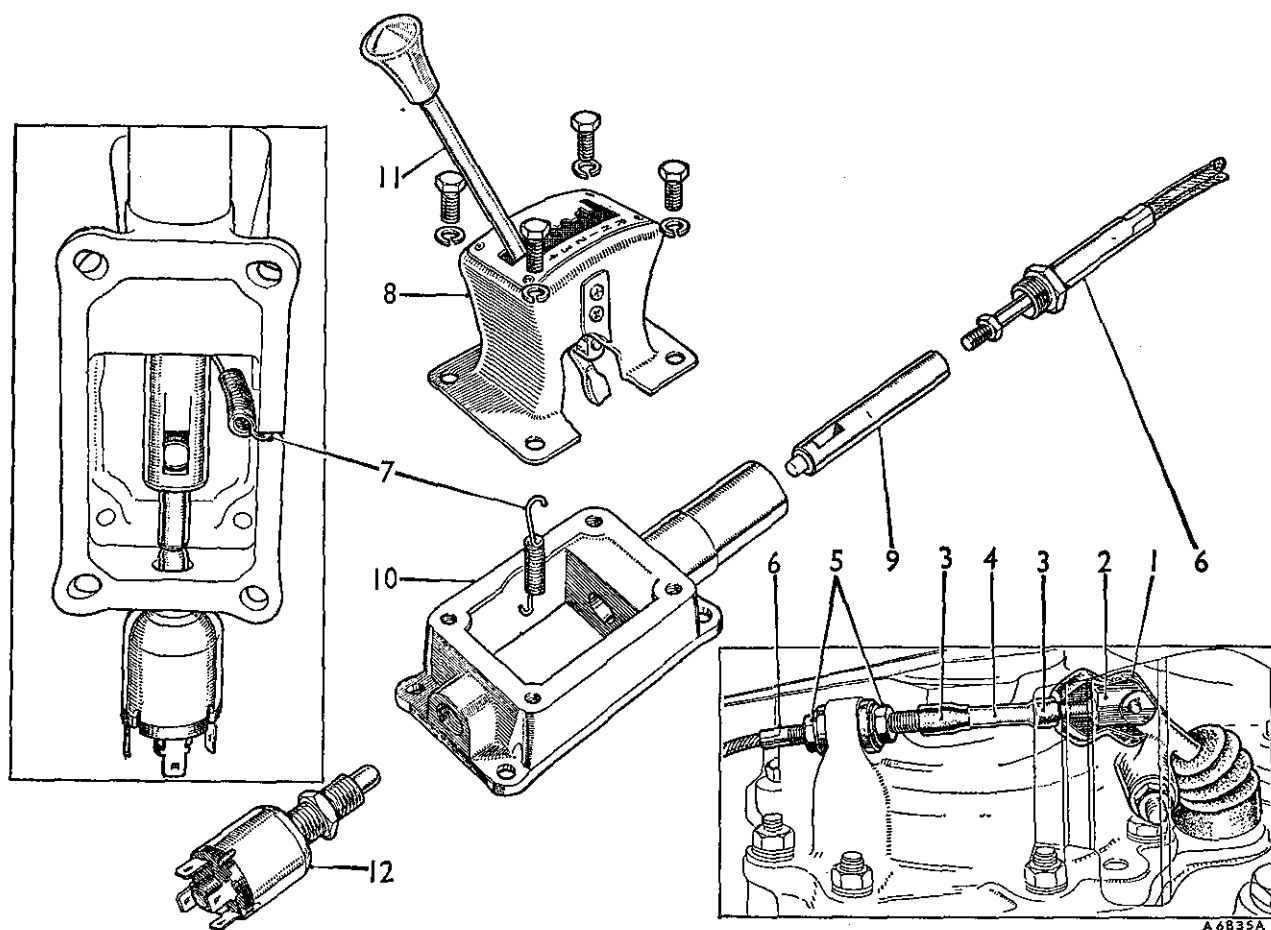

Fig. Fa.60
- (1) Remove the weather protection cover (if fitted) from the converter housing. Pull back the rubber sleeve and disconnect the gear-change cable by removing the clevis pin. Slacken the yoke clamp nut and remove the yoke, nut, rubber ferrules, and sleeve (see Fig. Fa.60). Remove the adjusting nuts from the outer cable and pull the cable clear of the transmission.
- (2) Release the cable clip from the floor panel.
- (3) Remove the front floor covering.
- (4) Disconnect the electrical leads from the inhibitor switch.